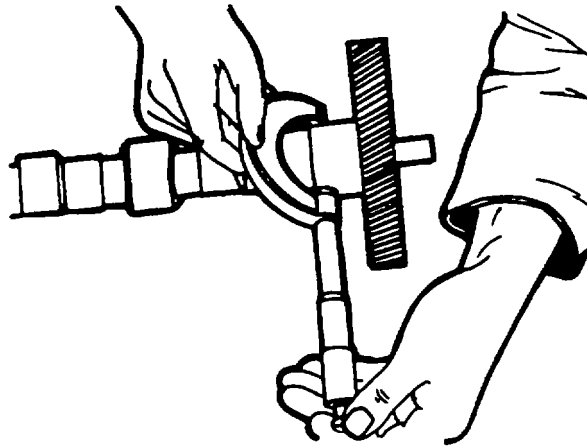

Figure 5-76. Measuring Camshaft Journal from Drive End
2. Measure the journal at the drive end of the camshaft (figure 5-76).